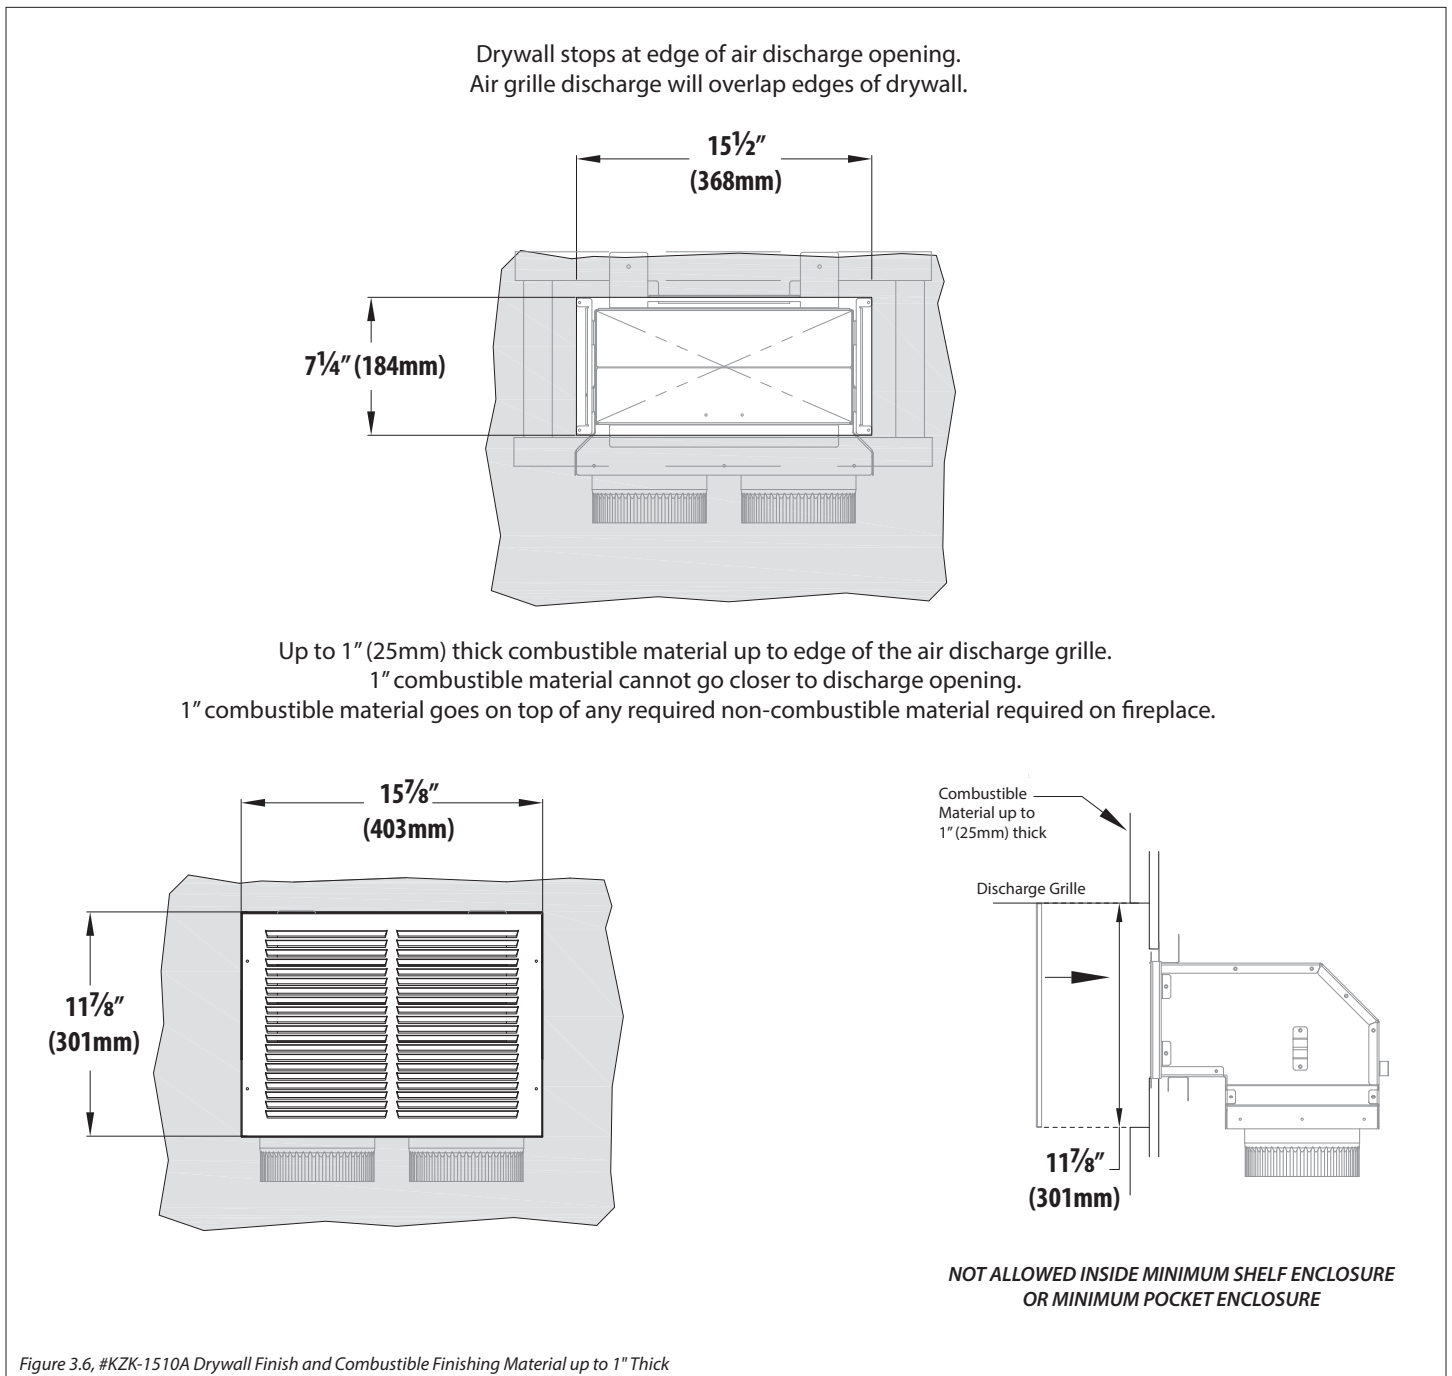

Figure 3.6, #KZK-1510A Drywall Finish and Combustible Finishing Material up to 1" Thick
- See Figure 3.6 on page 20 for up to 1" (25mm) thick combustible material installation around the KZK air discharge grille.
- See Figure 3.6 on page 20 for up to 1" (25mm) thick combustible material installation around the discharge trim of the KZK air discharge opening.